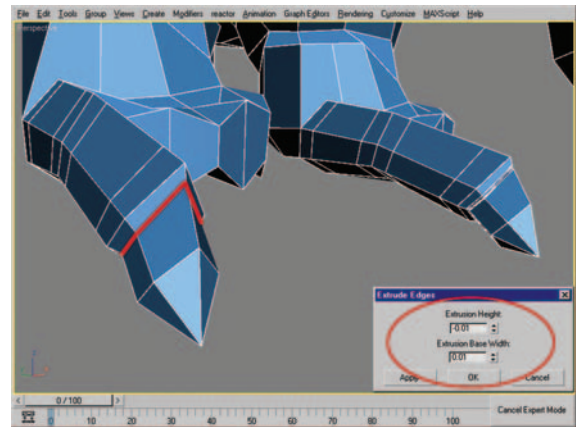

Figure 9.70 Edge-loop selection (left) and result after using Extrude Edges (right).
32. Select the edge loop seen in Figure 9.70 (left) and use the Extrude Edges settings with an Extrusion Height of -0.01 and an Extrusion Base Width of 0.01 to create a clean edge where the claw meets the fleshy part of the finger (Figure 9.70, right).